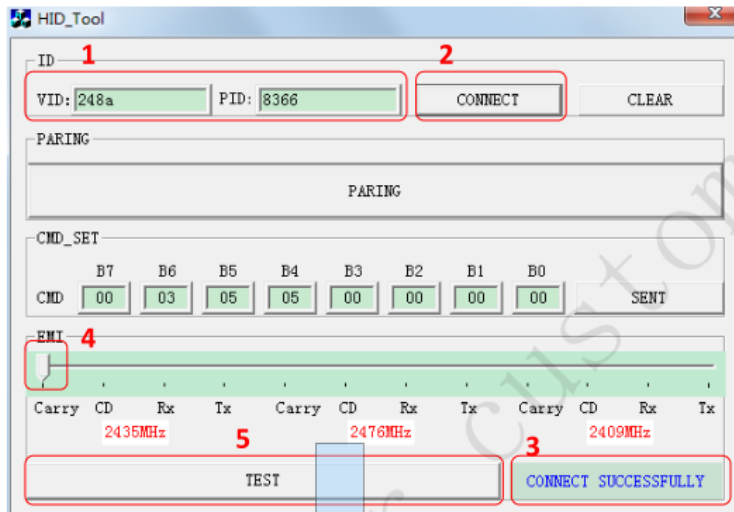
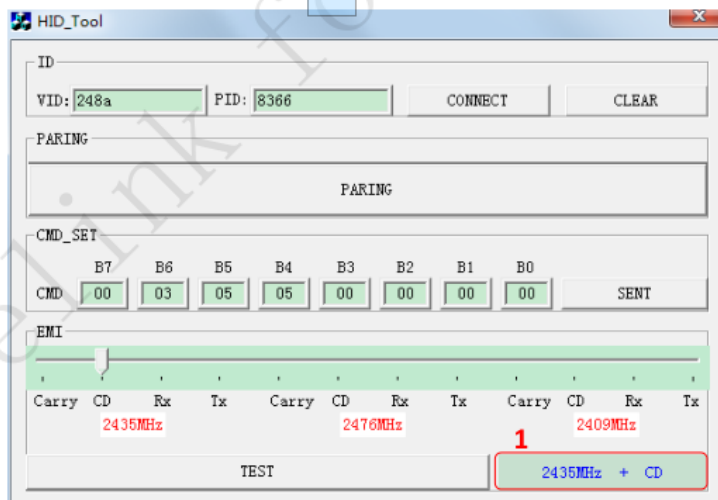

图 4-1 Dongle EMI 测试软件界面
图 4-2 当前测试模式和频点示意
- 2) Read the PID and VID data of pending testing dongle from the Device manager of my computer . In the 1 position shown in Fig. 4-1, enter the read data in the text box of "PID" and "VID" .
- 3) Click "CONNECT" button , ( In the 2 position shown in Fig. 4-1), Tool interface right corner will be appears "CONNECT SUCCESSFULLY" ( In the 3 position shown in Fig. 4-1),means successful connection.
Three frequency points for your choice . 2435MHZ,2476MHZ,2409MHZ, Each frequency point corresponds to five test patterns, "carry( Single shot emission ) , "CD (Carry +Data ,Modulation data continuous emission)". "RX". "TX", "V-Pattern", In the 4 position shown in Fig. 4-1, Drag the button to switch the frequency point and the testing mode. After selecting the frequency point and the testing mode. It's will have instructions in the lower right corner of the tooling interface. In the 1 position shown in Fig.4-2 .Indicates that the current testing mode is CD, and the current frequency is 2435MHZ,
- 4) After selecting the frequency point and the testing mode. Click " TEST" button. Start testing. Like in the 5 position shown in Fig.4-1
- (1) this device may not cause harmful interference, and
- (2) this device must accept any interference received, including interference that may cause undesired operation.
4) 选中频点和测试模式后，单击“TEST”按钮，开始测试，如图 4-1 中 5 所示。